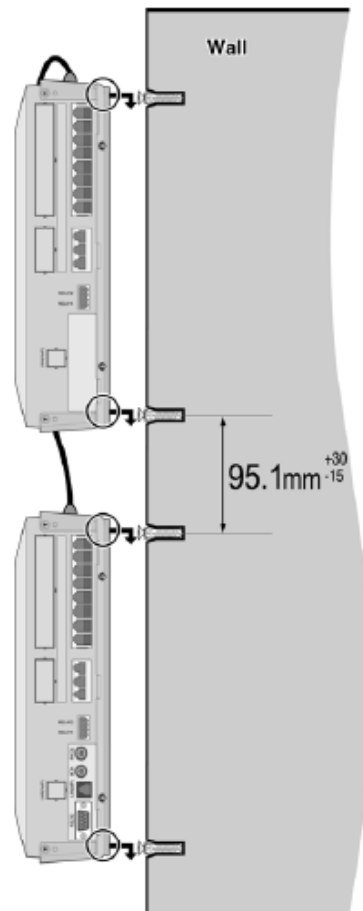

Figure 3-12 EKSU Wall Mounting
4. Hook the Expansion KSU onto the installed screws, making sure that the system slides down securely (Figure 3-12.)